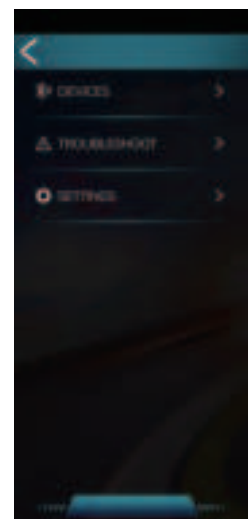

Fig. III.4.4
4) If you need to pair or connect other devices, you need to enter the option interface through the option button in the upper right corner of the APP main interface as shown in Fig.III.4.4, select the Devices option to enter the device list interface, and then click the device to connect or pair.